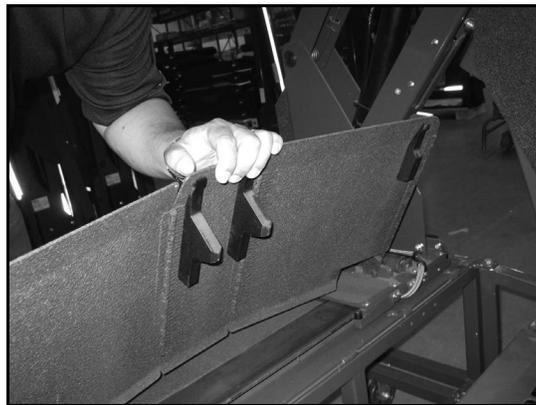

FIGURE 3-12
8. Refer to **Figures 3-12**. Raise bridgeplate by hand. Hold bridgeplate in this position with pin or screwdriver.